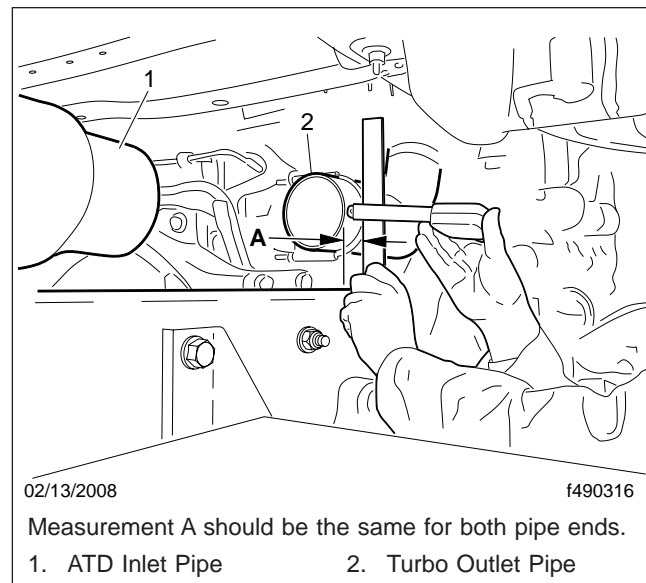

Fig. 3, Horizontal Measurement
3.4 Measure the horizontal distance between the pipe and the frame rail. See **Fig. 3**. This measurement must be the same for both pipe ends.